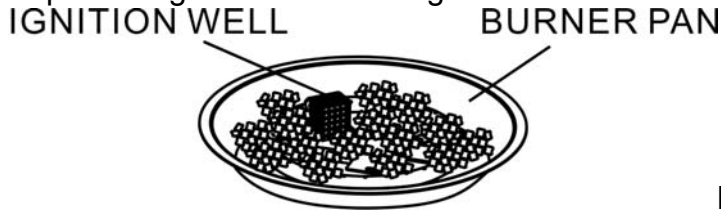

Figure 2
2. Pour ALL of the provided media (fire ice or lava rock) into the burner pan. Burner MUST be completely covered to ensure the appliance functions properly and safely. Remove any lava rocks or fire ice on top of the ignition well. See figure 2.